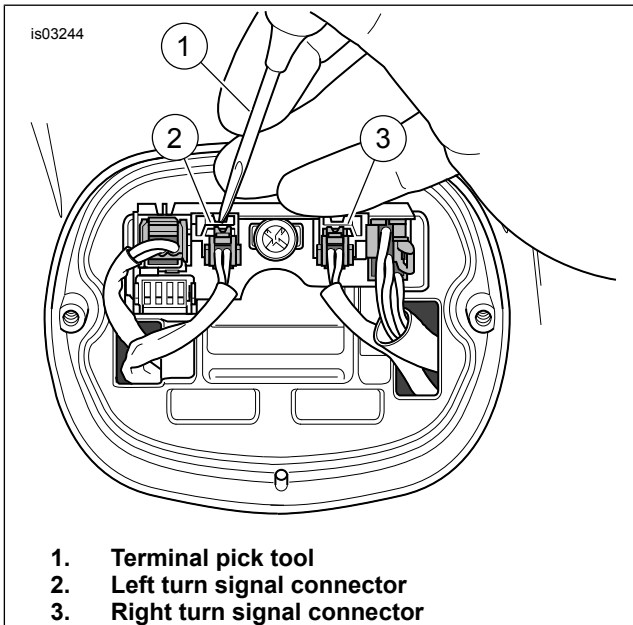

Figure 2. Remove Turn Signal Connectors
4. See Figure 2. Using a Terminal Pick Tool (1), press locking tabs and disconnect turn signal connectors (2-place, Items 2 and 3) from circuit board.
FXST/S/B tail lamp and connectors are positioned 180° from orientation shown in Figure 2.
4. See Figure 2. Install tail lamp lens (1) on base (2) using two screws.